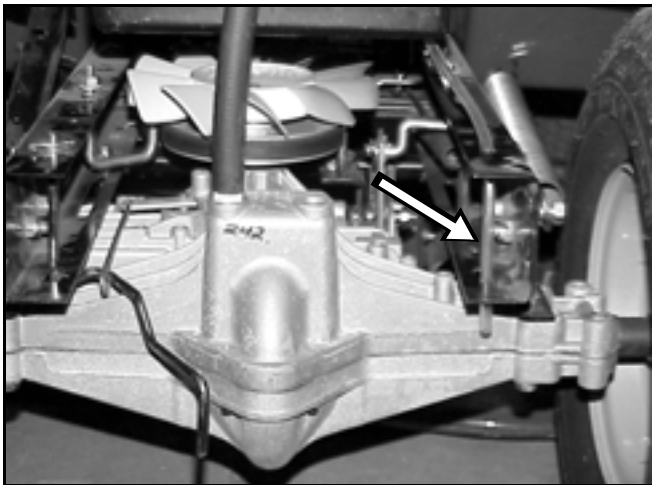

Figure 97
13. Install the battery and battery tray. **Note: If the battery uses a drain tube, make sure the tube is reinstalled through the rear hole in the frame** (Figure 97).